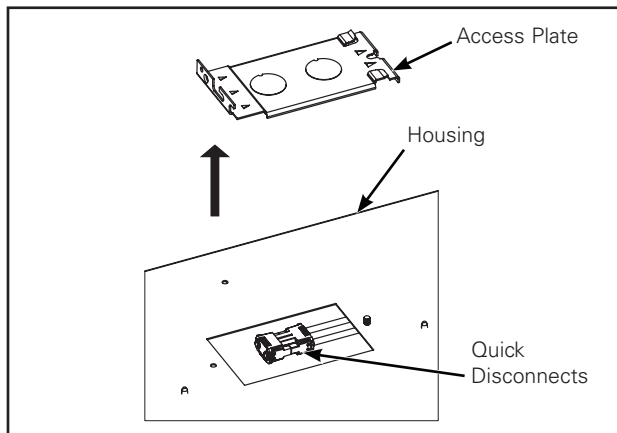

Figure 1.
1. Remove access plate on back of fixture to access quick disconnects for electrical connections. (Figure 1.)